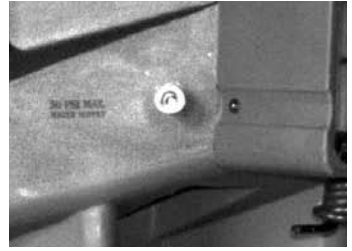

Figure 1
**Connecting to water.** Move the cooler to an area where it can be filled with water and drained. The cooler should be located on level ground. Connect to a water supply using a commercial grade garden hose (supplied by customer). Simply attach the hose to the adapter located on the left side of the unit (see figure 1). Verify water tight connections by visually examining the hose connection and the drain plug.
The Port-A-Cool Jetstream™ 1600 also features the filler cap option (see Figure 1 above) that holds 40 gallons of water for increased portability.